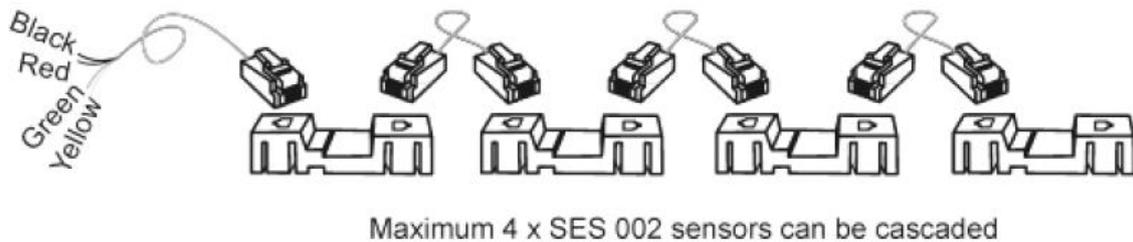

Figure 44. Secure Pipe Tank Digital Temperature Sensor Daisy Chain.
**Step 3:** After establishing good and reliable electrical connection of RJ10 telephone cable with the four-pin black female connector, attach it to the four-pin metallic male connector which is provided on backside of SES 302/SES 303. Keep the RJ10 wire exit in the up direction. Fit the supplied batteries. Now insert RJ10 end of this telephone cable into the pipe/ tank sensor (either socket). The other socket can be used to connect with a second pipe/ tank sensor (daisy chain). The second telephone cable with RJ10 connectors at both ends is supplied for this purpose (Figure 44).